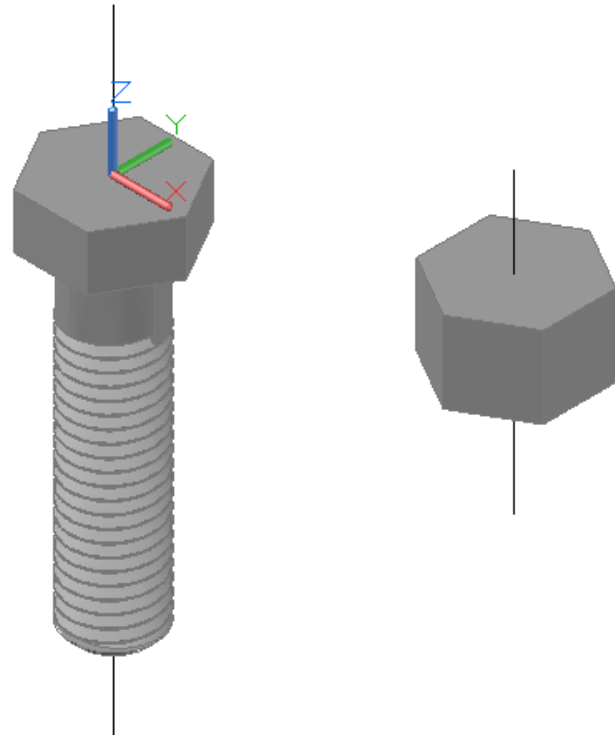

Figure Step 20
Step 20 On layer: Center Line, draw a line on the centerline of the bolt and the nut. The length of the lines is not important. (Figure Step 20)